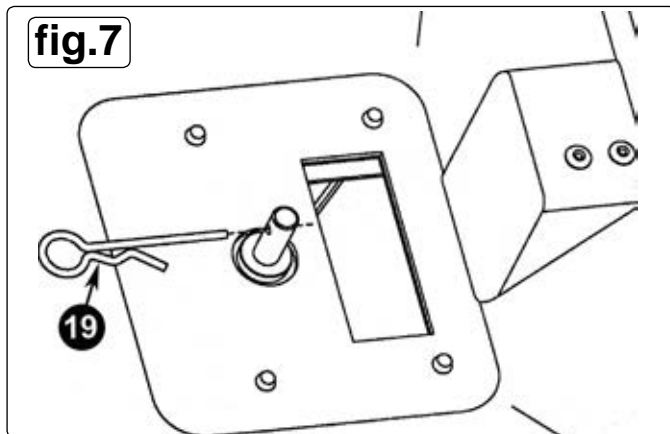

fig.7
- 4.11. Attach the R-pin (19) to the shaft protruding above the impeller as shown in figure 7.